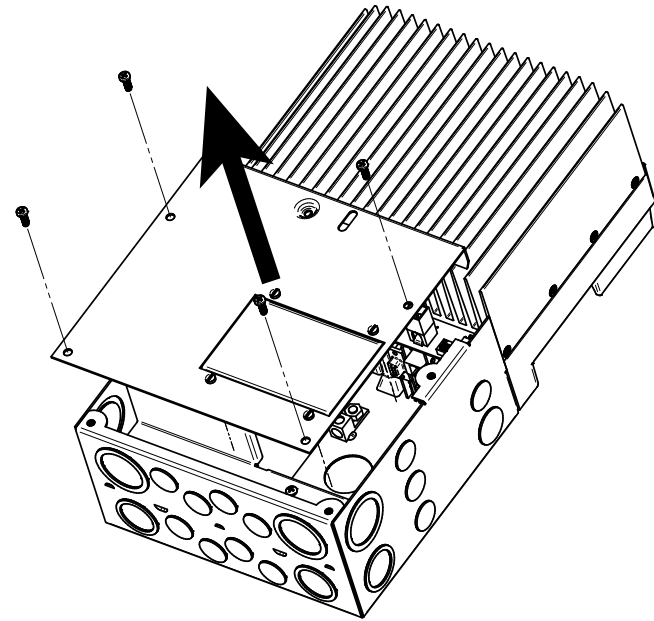

Figure 3-7. Remove the wiring box cover
Use a #2 Phillips screw driver to remove the four (4) screws that secure the wiring box cover as shown in figure 3-7 below.